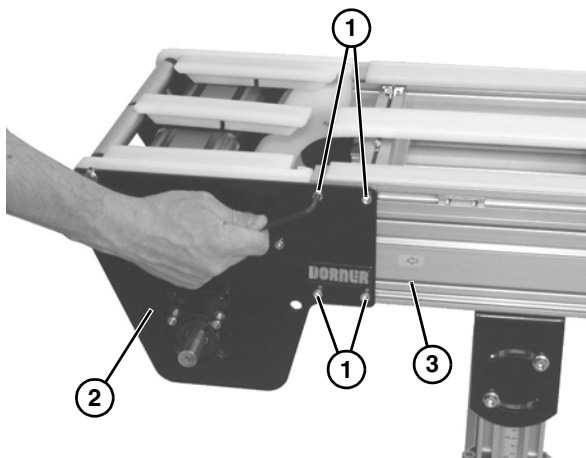

Figure 26
4. Loosen the four socket head screws (**Figure 26, item 1**). Repeat on opposite side.
5. Remove the drive tail assembly (**Figure 26, item 2**) from the frame (**Figure 26, item 3**).